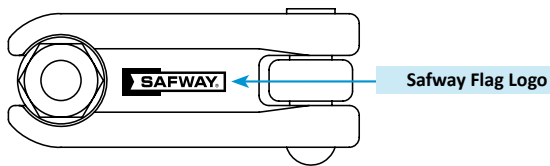

Figure 5 – Narrow Cap Style (Bottom View)
1. The Safway flag logo is located on the cap. If the clamp does not have the logo on the cap, it is not a CRA2B and may not have the same BrandSafway-recommended features or load capacities (Figs. 5 & 6).